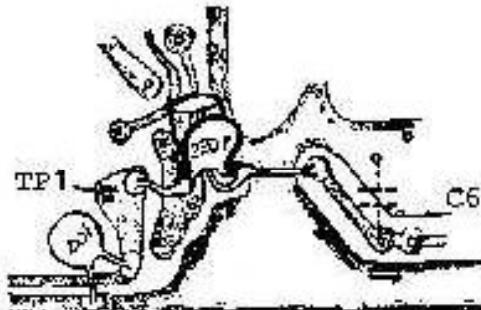

Figure 2
3. Remove the six (6) screws securing the PLL unit to the chassis and fold the unit over, to allow access to the foil side of the circuit board.
4. Remove the jumper wire that is installed between TP-1 and C6. Install the parallel circuit consisting of the 220 $\mu$ f capacitor and the 470 $\mu$ h coil in its place. See figure 2.
5. Install the .001 $\mu$ f capacitor as shown in figure 2.